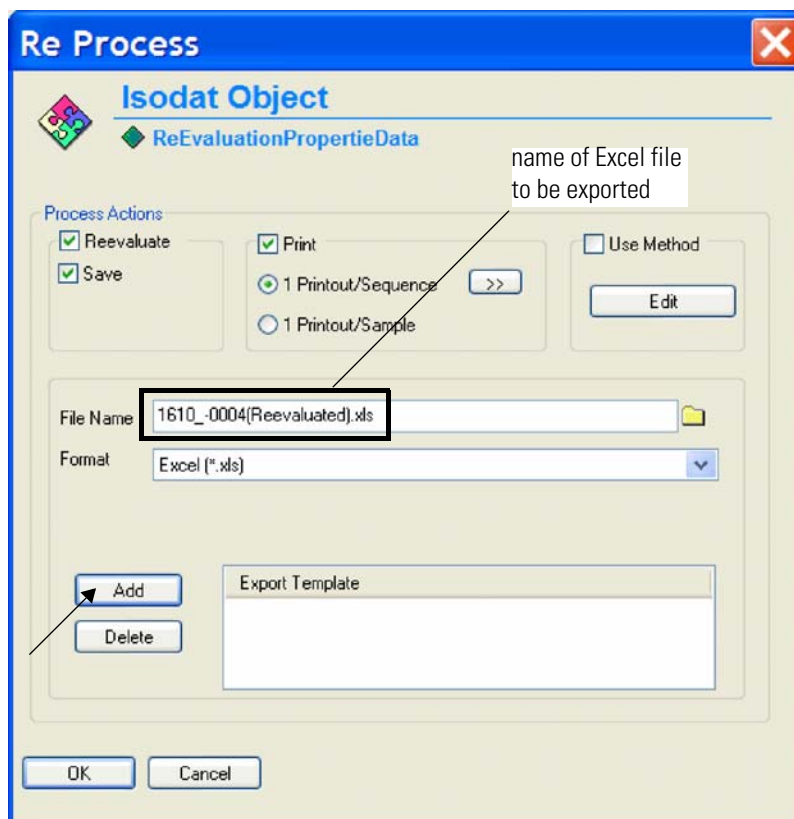

Figure 3-74. Add button in Reevaluation window
3. In the appearing Re-process window, the name of the Excel file to be exported is shown at File Name. Click on the **Add** button. See Figure 3-74.